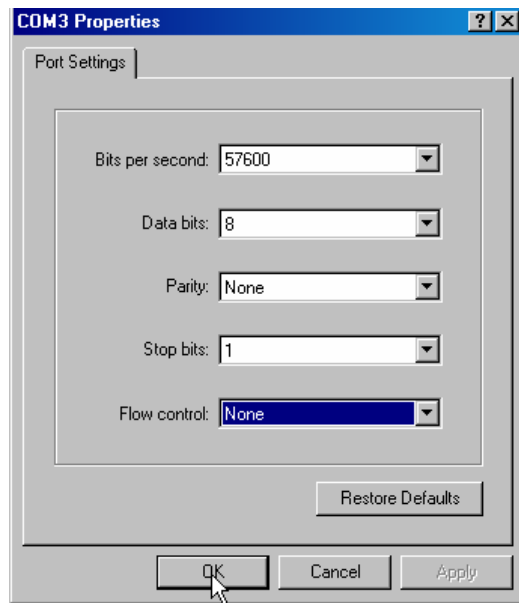

Figure 27: COM Port Settings Dialog Box
5.	Click the OK button to bring up the “port settings” dialog box, shown in Figure 27.